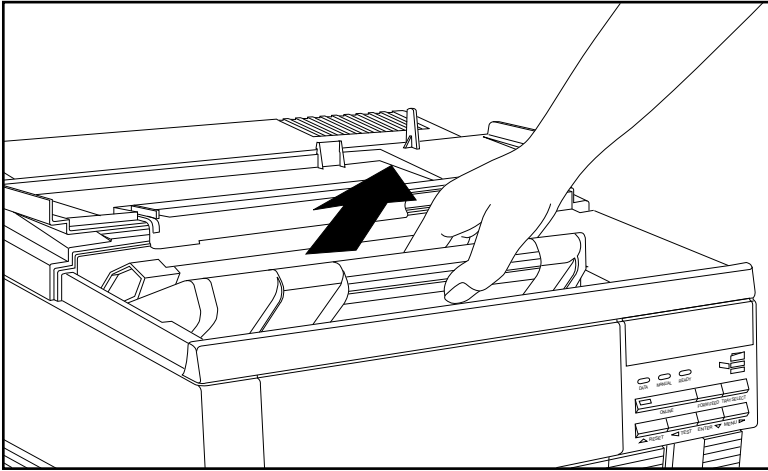

Fig. 10.5 Remove the Toner Cartridge
2. Remove the Toner cartridge and set it aside (fig. 10.5).